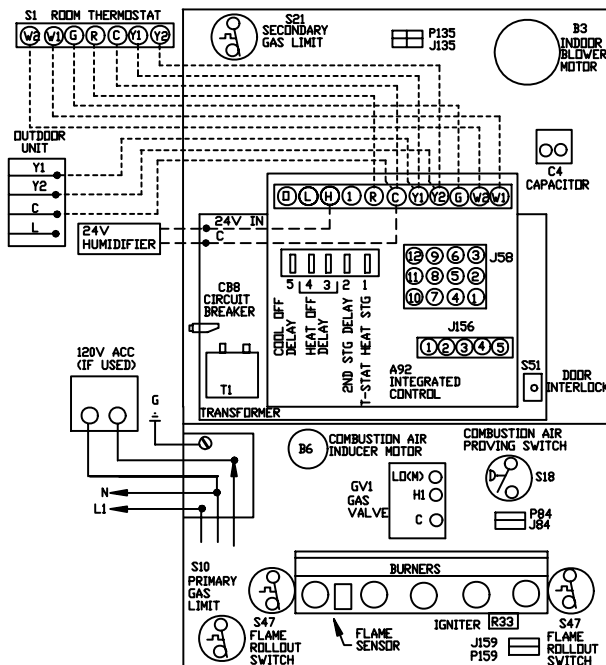

FIGURE 18
Refer to figure 17 for schematic wiring diagram and troubleshooting and table 12 and figure 18 for field wiring.
- 5 - Complete the wiring connections to the equipment. Use the provided unit wiring diagram and the field wiring diagrams shown in table 12 and figure 18. Use 18-gauge wire or larger that is suitable for Class II rating for thermostat connections.